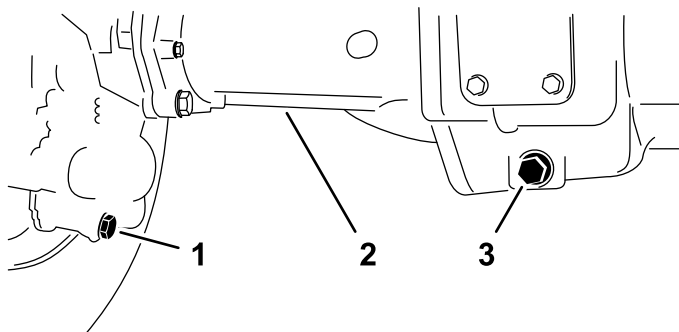

Figure 87
2. Clean the area around the 3 drain plugs (Figure 87)—1 at each bevel-gear case (outboard of the axle housings) and 1 in the center-gear case.
3. Remove each drain plug (Figure 87) and allow the oil to drain into a drain pan.